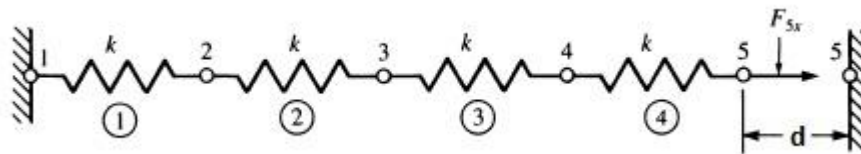

Figure 2
- (c) For the spring assemblage shown in Figure 2, obtain (a) the global stiffness matrix, (b) the displacements of nodes 2–4, (c) the global nodal forces, and (d) the local element forces. Node 1 is fixed while node 5 is given a fixed, known displacement $d=20.0\text{mm}$. The spring constants are all equal to $k = 200 \text{ kN/m}$.